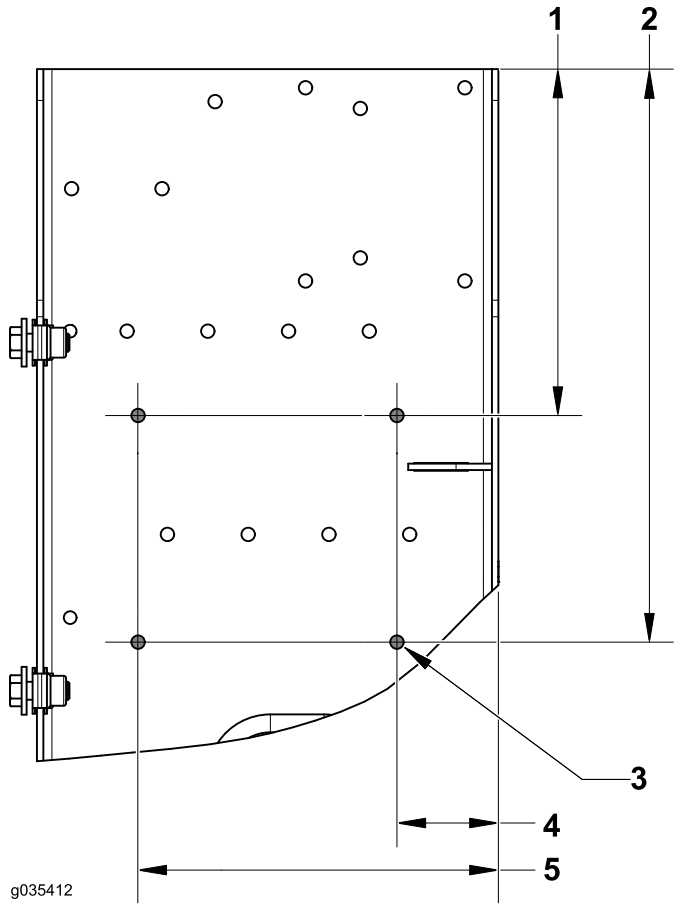

Figure 8
4. Locate and drill the following holes for the controller (Figure 8).